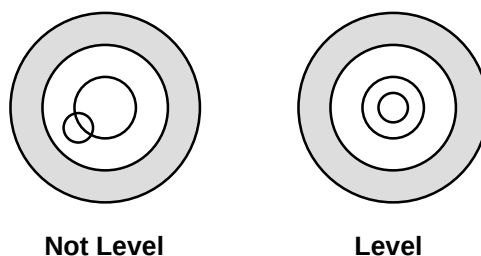

Figure 2-2: Leveling the Scale Base
- Remove the platter so that you can check the level that is located on the top of the scale base. Adjust the leveling feet until the bubble on the level is centered (see Figure 2-2).